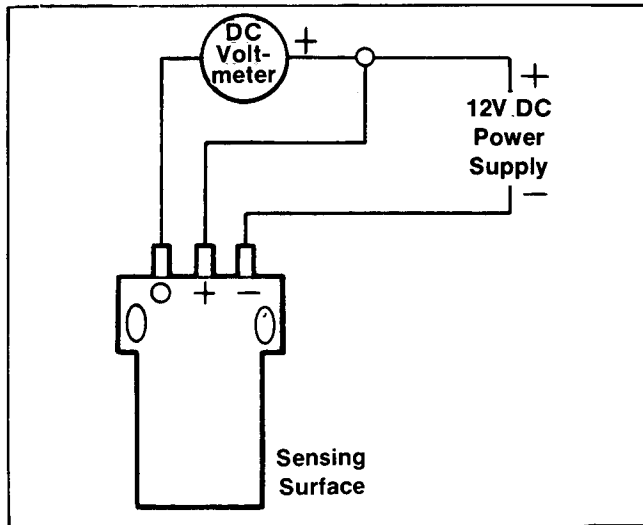

Figure 7-14. Speed Sensor Test
1. Connect speed sensor, voltmeter and DC voltage source as shown in Figure 7-14.